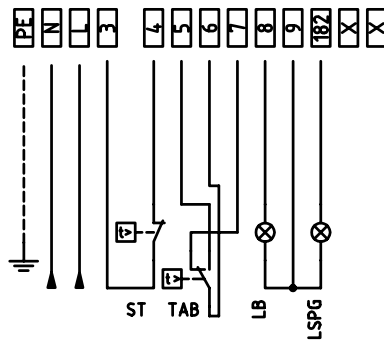
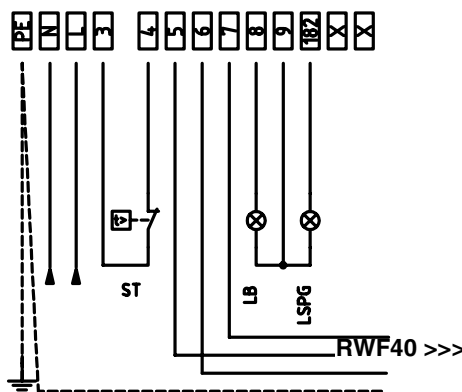

Fig. 19: Progressive burners
Fig. 21: Fully modulating burners
- 1 Connect the signal conductors from the boiler to the burner, as for the next elements (Fig. 19 - Fig. 21):
- 2 Connect the signal conductors from the burner to the boiler, as for the next elements (Fig. 19 - Fig. 21)